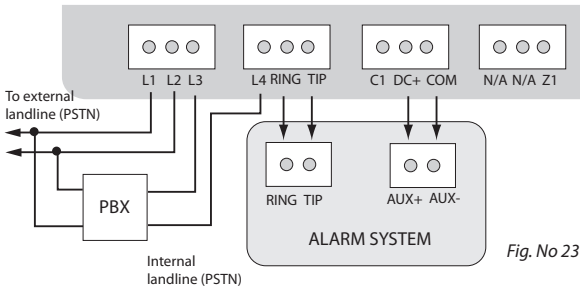

Fig. No 23
1. Connect the circuit as indicated in Fig. No. 23 – connect telephone contacts of the alarm system RING/TIP to RING/TIP contacts of communicator.